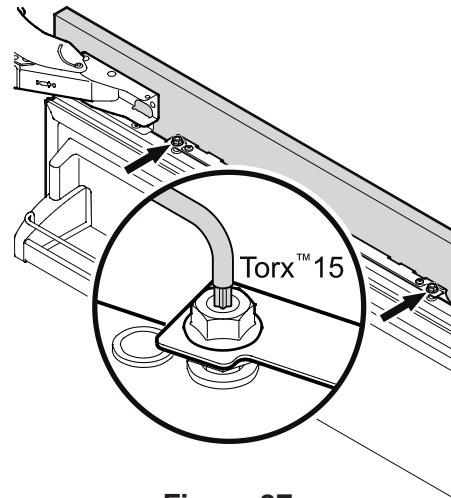

Figure 37
5. Align the panel in its vertical position if necessary. Loosen the hex nuts and turn the adjusting bolts (**Figure 37**).